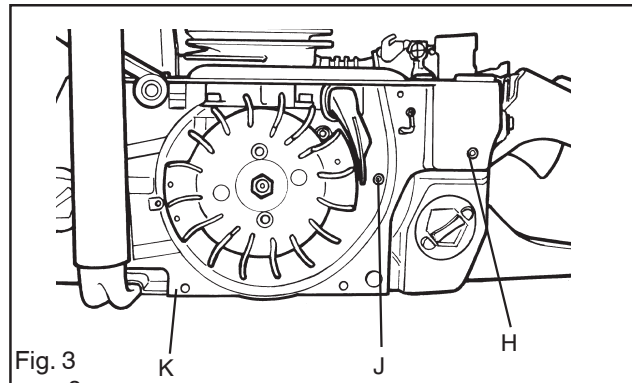

Fig. 3
7. Remove the bolts (H, J and K) from the flywheel side. See fig. 3.
8. Fit the bolts (H, J and K) on the flywheel side. See fig. 3. Tighten the bolts with the correct torque (see Service Data).